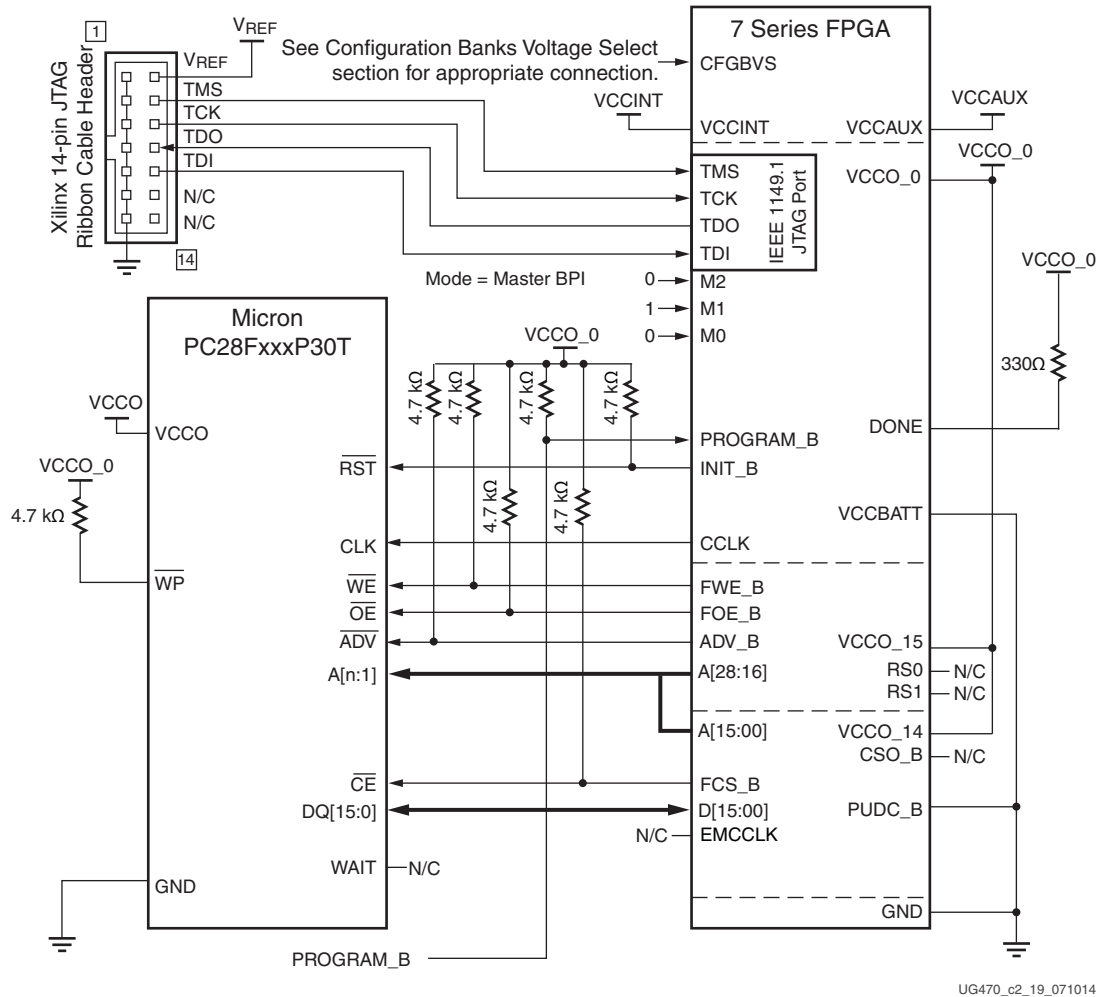

Figure 2-19: 7 Series FPGA Master BPI Configuration Interface Synchronous Read Example
The 7 series FPGA Master BPI configuration mode can optionally read a bitstream from select BPI devices that support burst, synchronous read mode as illustrated in Figure 2-19 and described in Synchronous Read Mode Support, page 61. A BPI device that supports the synchronous read mode latches a given start address from the FPGA into its internal address counter. Then given a clock, the flash outputs data from the next sequential address location to its data bus during each clock period. In the synchronous read mode, a BPI device can deliver data many times faster than through its asynchronous read interface.
The Master BPI synchronous read mode (Figure 2-19) supports the flash families in Table 2-14 with synchronous support. The FPGA starts in asynchronous read mode, using the default CCLK frequency, and the bitstream header determines if the read mode continues asynchronously or if it switches to the faster synchronous read mode. Bitstream commands initiate the switch from asynchronous read to synchronous read if the **BPI\_sync\_mode** option is set. There are two available settings for the option: Type1 or Type2. Type1 is used to set the G18F flash family synchronous and latency bits and Type2 is used to set the P30. The switch to synchronous mode is done by the FPGA controller, which performs an asynchronous write to the BPI flash configuration register to set the device into synchronous mode and initiate a bitstream reread. To support the synchronous read mode, the FPGA CCLK output is connected to the BPI flash device, and the ADV\_B FPGA signal must be connected to the Micron flash  $\overline{ADV}$  signal.
Notes relevant to Figure 2-19:
1. The 7 series FPGA synchronous read mode requires a few additional connections over the asynchronous mode. The FPGA CCLK must be connected to the flash CLK signal and the FPGA ADV\_B must be tied to the flash  $\overline{ADV}$  signal. This setup shown in Figure 2-19 supports the FPGA powering up initially in asynchronous mode and then switching over to synchronous mode.
5. Only the x16 data width shown in Figure 2-19 is supported by the synchronous read mode.
7. The RS[1:0] pins are not connected as shown in Figure 2-19. These output pins are optional and can be used for MultiBoot configuration. See Chapter 7, Reconfiguration and MultiBoot.
10. The FPGA mode (M[2:0]) pins are shown set to Master BPI mode (010). The implementation of a board-level option that enables the user to change the FPGA mode pins to JTAG mode (101) is recommended to enable JTAG-based debug capability for the FPGA during design. This is not required, but the JTAG mode setting ensures that there is no interference from the Master BPI configuration during debug.